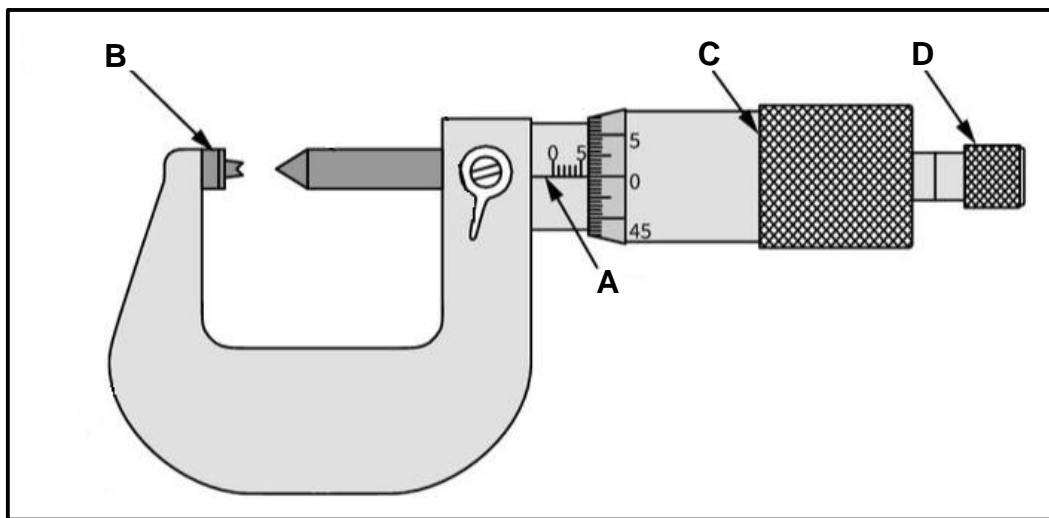

FIGURE 7.2
7.2 FIGURE 7.2 below shows a V-screw thread micrometer. Label **A–D**.